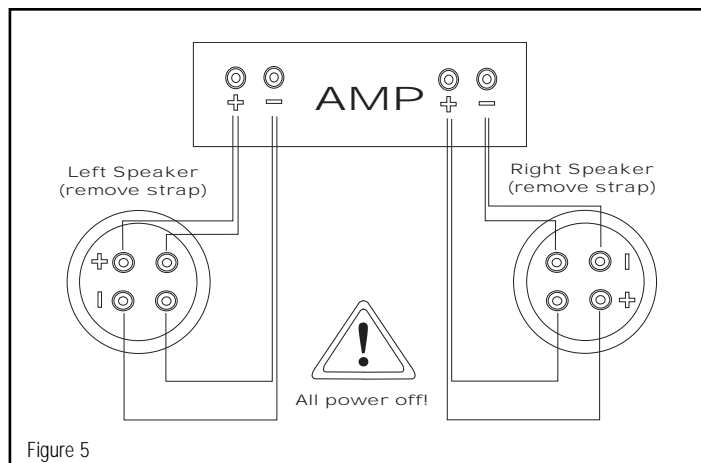

Figure 5
**Bi-wiring** – In bi-wiring, separate cables are connected from the amplifier or receiver output terminals to the speaker input terminals for the tweeter and woofers (Figure 5). This results in lower electrical resistance between the amplifier and speaker than single-wiring with the same gauge cable. In some cases bi-wiring may be preferable to single-wiring with lower-